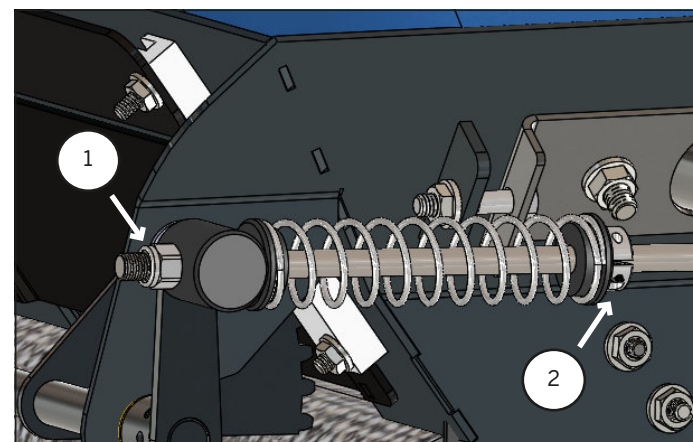

Figure 11.7.4
1. Set the control handle is in the closed position. (Fig 11.7.4)